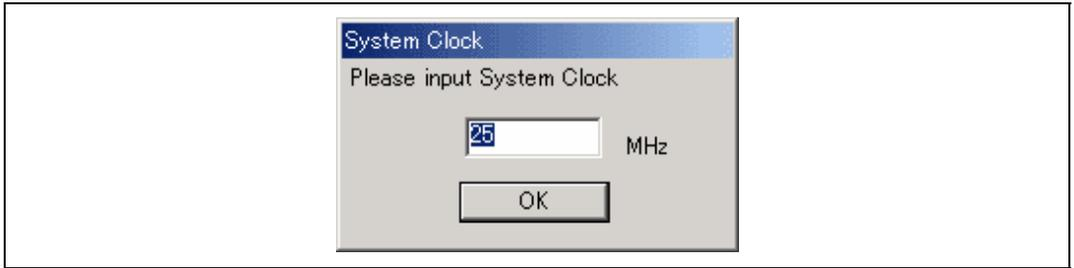

Figure 3.8 [System Clock] Dialog Box
10. When using the H8 family microcomputer, the dialog box shown in figure 3.8 is open. Input the system clock value.